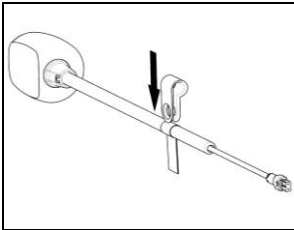

Fig. 35
- Insert the microphone clamp on the arm of the microphone (Fig. 35).